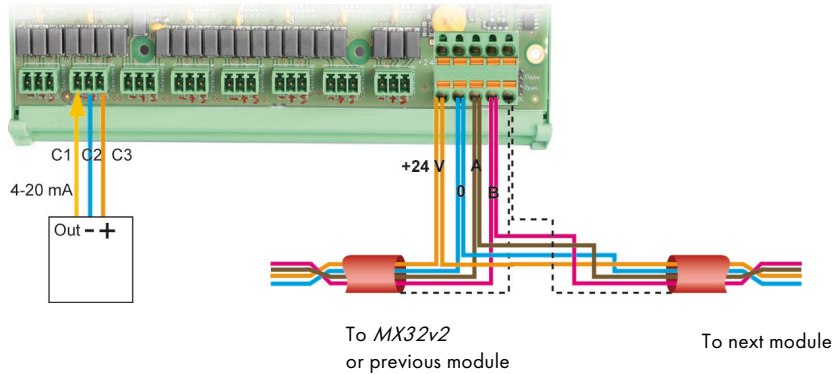

Figure 31: Connection of the 8 analog input modules (with 4-20mA detector)
**A – Logic input connectors** Each of these two terminals may be connected to a voltage-free contact in accordance with Figure 31